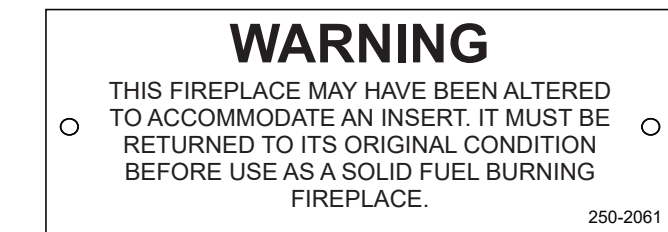

Figure 17.2
- The permanent metal warning label provided in the component pack must be attached to the back of the fireplace, with screws or nails, stating that the fireplace may have been altered to accommodate the insert, and must be returned to original condition for use as a conventional fireplace (**Figure 17.2**).